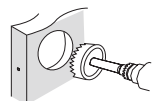

Figure 3a
- Drill 2-1/8" (54mm) hole through door face as marked for lock set (Figure 3a).